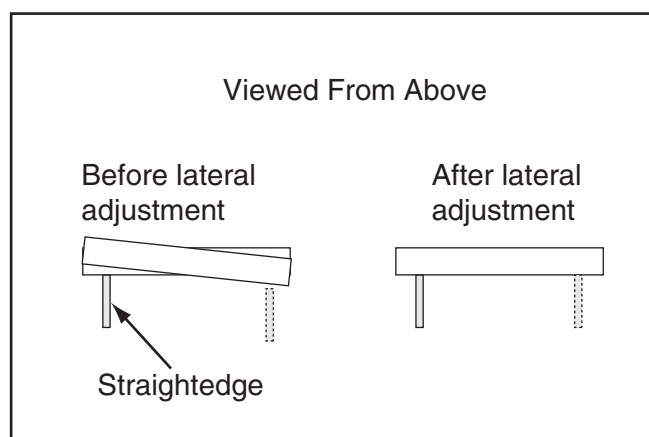

Figure 73. Before and after lateral wheel alignment (viewed from above).
- Using the 3mm hex wrench, adjust the set screws until the upper wheel is coplanar with the lower wheel, see **Figure 73**.